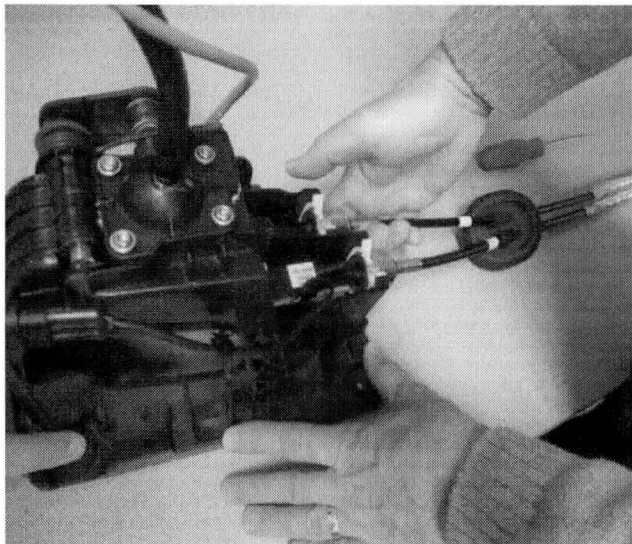

Fig. 1 Shift Module
4. Pull up on shift cable as pictured (Fig. 1).